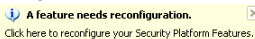

Figure 1
2. The Ultra TPM utility appears in the system tray after it is installed. To create a TPM key and save it to USB flash drive(s), right-click on the Ultra TPM icon  and select **Initialize**. A screen in Figure 1 will appear. Select a USB flash drive and click the **Enable Backup to BIOS**^(Note 2) check box, or select at least two USB flash drives. Click **OK** and then enter the user password^(Note 3) created with Infineon Security Platform Settings Tool. Click **OK** to store the key on your USB flash drive or in the BIOS.